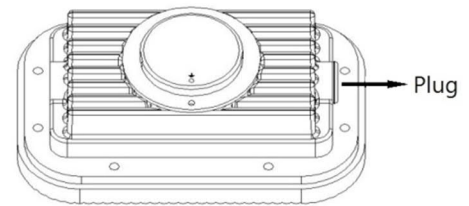

Figure 3
- ☞ Loosen the Plug from the Tank and remove it. (Figure 3)